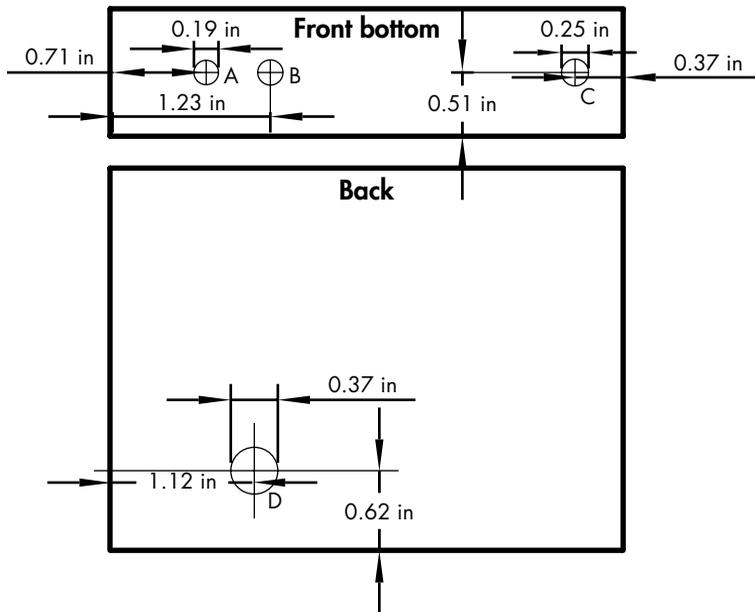

Figure 3-11: Front and bottom of the Regulated Power Supply enclosure
3. Drill holes for the output binders and 3.5 mm jack on the front of the case, as shown in Figure 3-11.